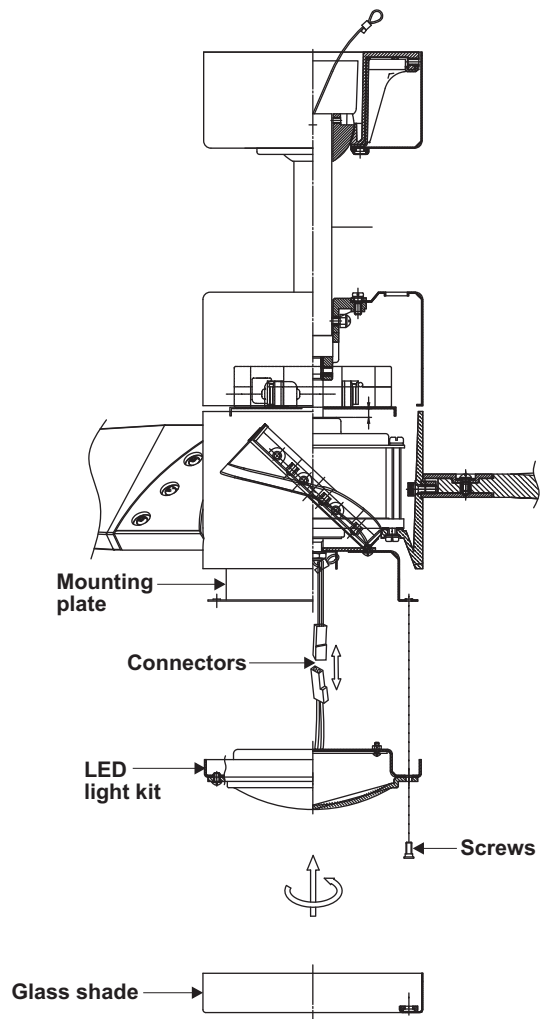

Figure 16
2. Raise and hold the LED light kit close to the mounting plate and proceed to do the wire connections. Make the 2-pin wire connections: (Fig. 16)
3. Place the key holes from the LED light kit over the 2 screws previously loosened from the mounting plate, turn light kit until it locks in place at the narrow section of the key holes. Secure by tightening the 2 screws previously loosened and the one previously removed. (Fig. 16)